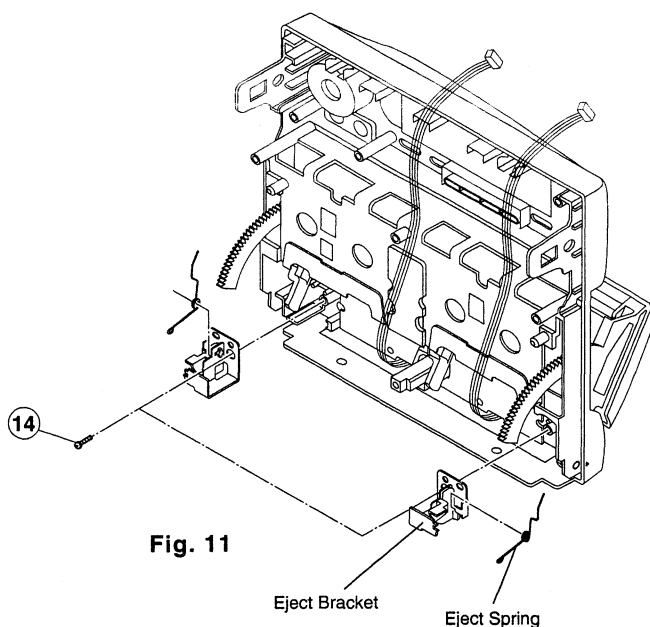

Fig. 11
11. Removal of Eject Bracket (Fig. 11)